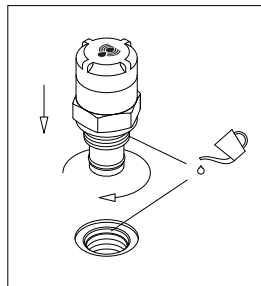

fig. 10
- (Fig. 10) Lubricate with the operating fluid the thread and the O-Ring of the indicator body, then screw the indicator body in referring to the tightening torque table in paragraph 3